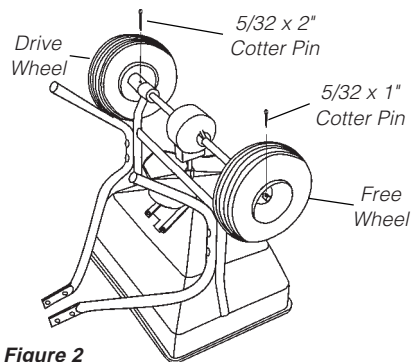

Figure 2
2. Install drive wheel onto the right-hand end of the axle as viewed from the operating position. (You can identify the drive wheel by the cotter pin hole drilled in the hub). The hub must face towards frame. Align the hole in the drive wheel hub and the hole in the axle. Secure drive wheel to axle with the 5/32" x 2" cotter pin. Install the free wheel on the opposite end of the axle. Insert the 5/32" x 1" cotter pin to retain the free wheel. See Figure 2.